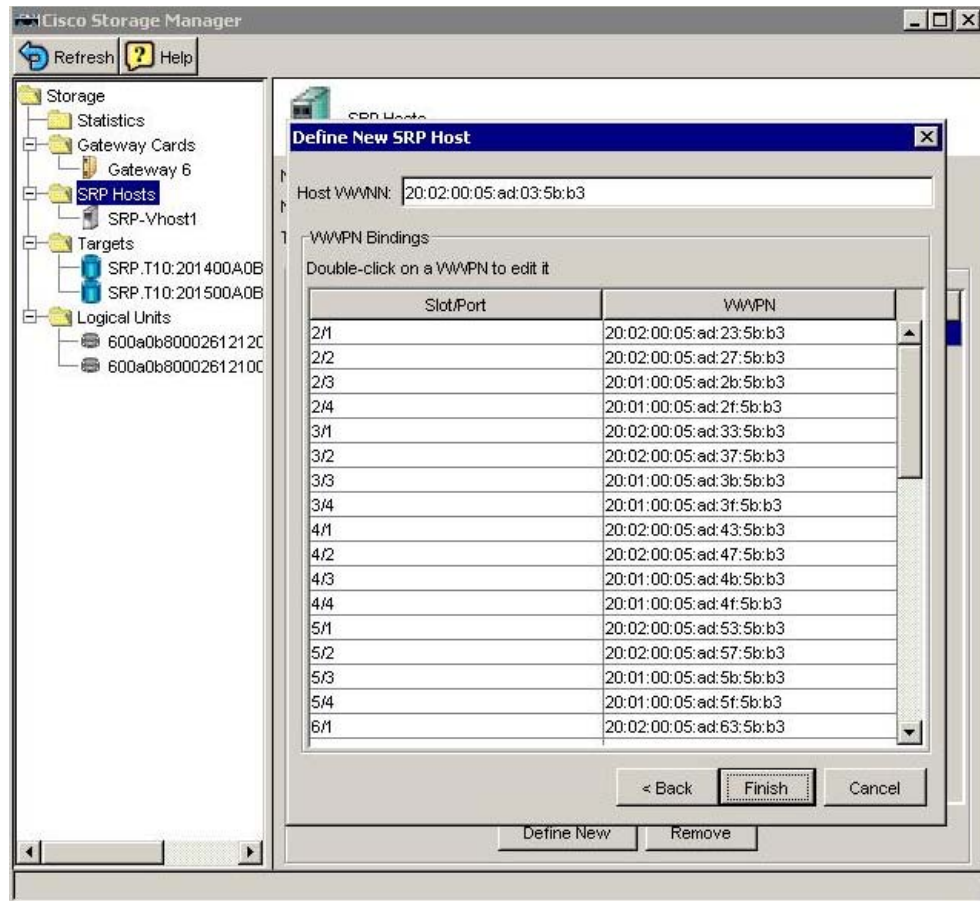

Figure 6-7 Define New SRP Host menu
7. Select **Finish** to complete the SRP host creation process as shown in Figure 6-7.